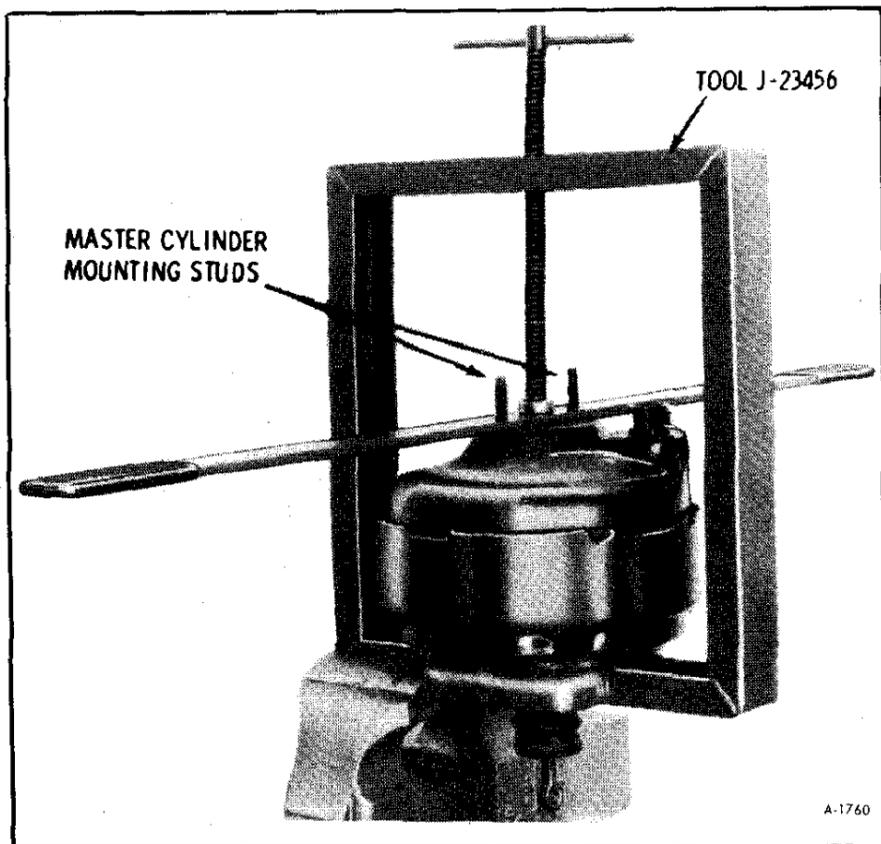

Figure 9—Using Brake Booster Separating Fixture
4. Install booster assembly in brake booster separating fixture (J-23456) as shown in figure 9.